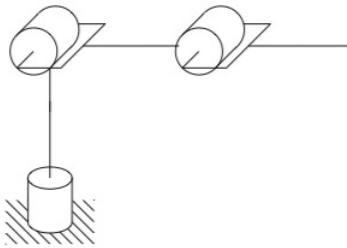

Fig. 3.27 Three-link articulated robot
6. Consider the three-link articulated robot of Figure 3.27. Derive the forward kinematics equation using DH convention